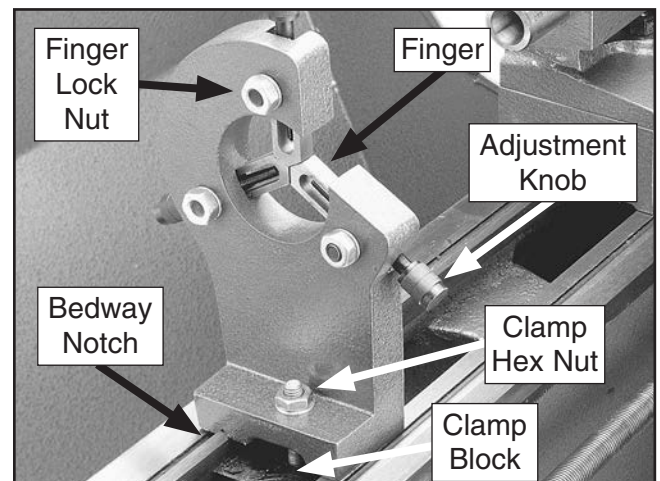

Figure 35. Steady rest components.
2. Remove the clamp hex nut, bolt, and clamp block from the bottom of the steady rest (see **Figure 35**).